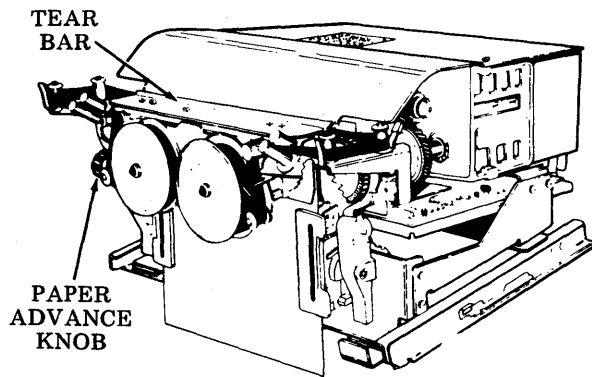

Fig. 60—Paper Positioning for First Printing Line (80-Column)
(c) On 80-column forms access printer, pull out paper advance knob (blue) and turn to position form for first line of printing as follows (Fig. 60):
- (1) Align the start of form (tear line perforation) directly behind the tear edge of the tear bar (Fig. 60).